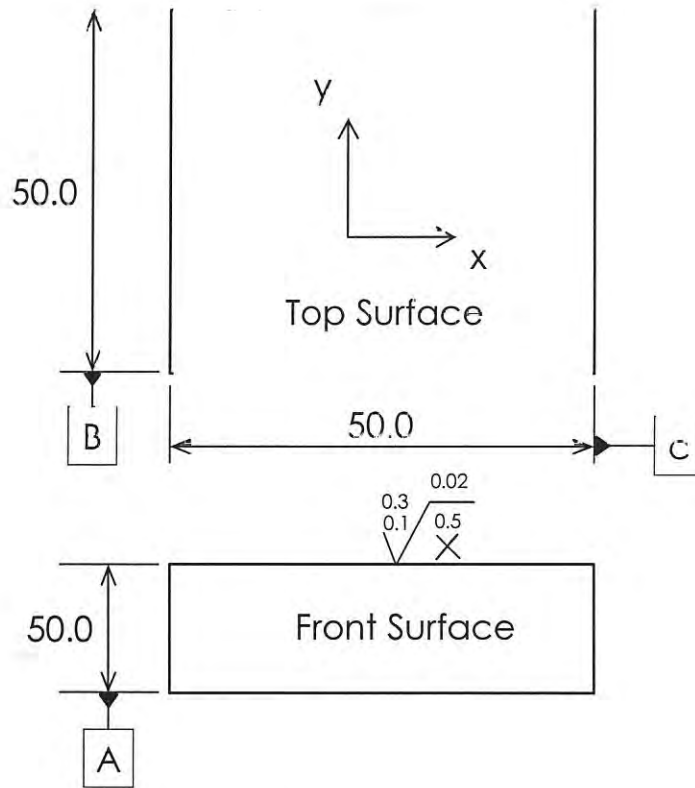

Figure Q2
- (a) Metrology can be categorized into **THREE (3)** types. Identify all those types and explain at least **ONE (1)** of them. (6 marks)
- (c) A shaft for aircraft is fabricated to have interference fit with a bearing. In between-process inspection, a machinist measure the diameter of the shaft using a digital micrometer. Suggest **at least ONE (1)** practice during measurement that could cause random error and systematic error. (6 marks)
- (d) A metal block need to be machined to get a flat surface with roughness need to be controlled according to part drawing. From the part drawing in **Figure Q2**, demonstrate the surface roughness measurement method including the measuring direction, sampling length and judgement value. (7 marks)